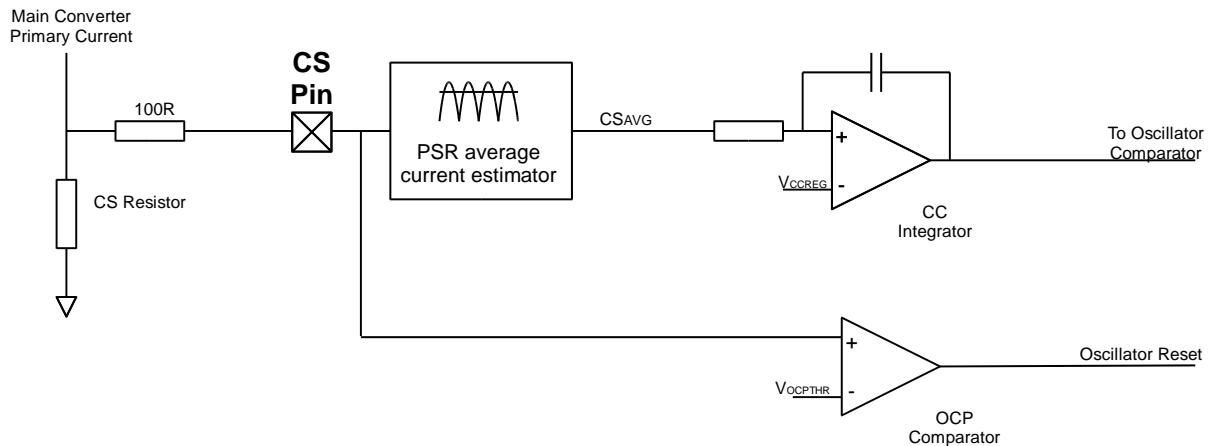

Figure 7: RED1401 Current protection and control circuits
Figure 7 shows the two current control methods used in the converter:
Shown in figure 7 the signal from the CS pin is divided into two different paths. The bottom path provides peak instantaneous over-current protection (OCP) while the PSR Average Current estimation block provides the current regulation (CC) information. The voltage on the CS pin is an AC signal biased around GND. Inside the PSR block this signal is processed to provide a voltage proportional to the average converter output current.
The CC regulation circuit is shown in Figure 7. CC operation is defined by an internally compensated control loop. This provides a system response time of approximately 1ms in a typical application. The average current regulation point,  $V_{CCREG}$  is pre-set to mV, referred to the CS pin.